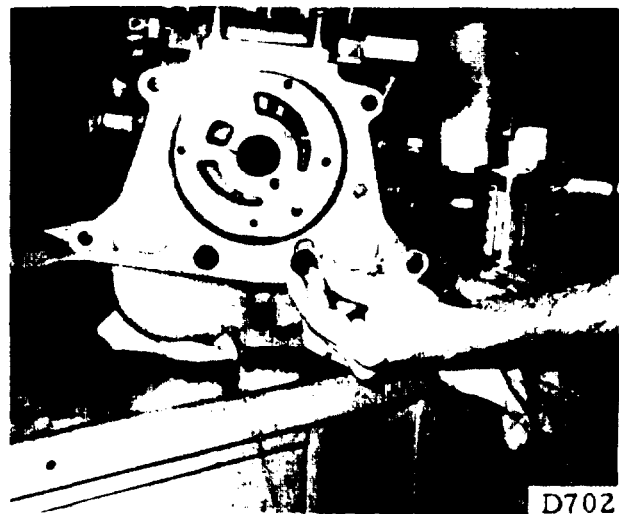

FIGURE 7-45.
h. Install both corks over the idler and cluster gear shafts (see figure 7-45).